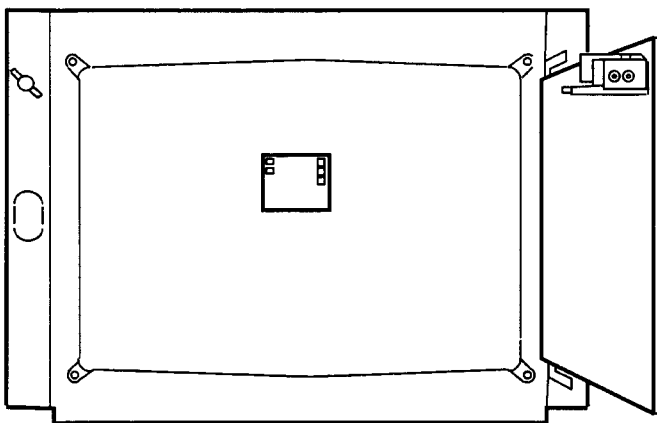

Fig.7 Abb.7
5. Turn the Chassis through 90 degrees anti-clockwise as shown in Fig.7.